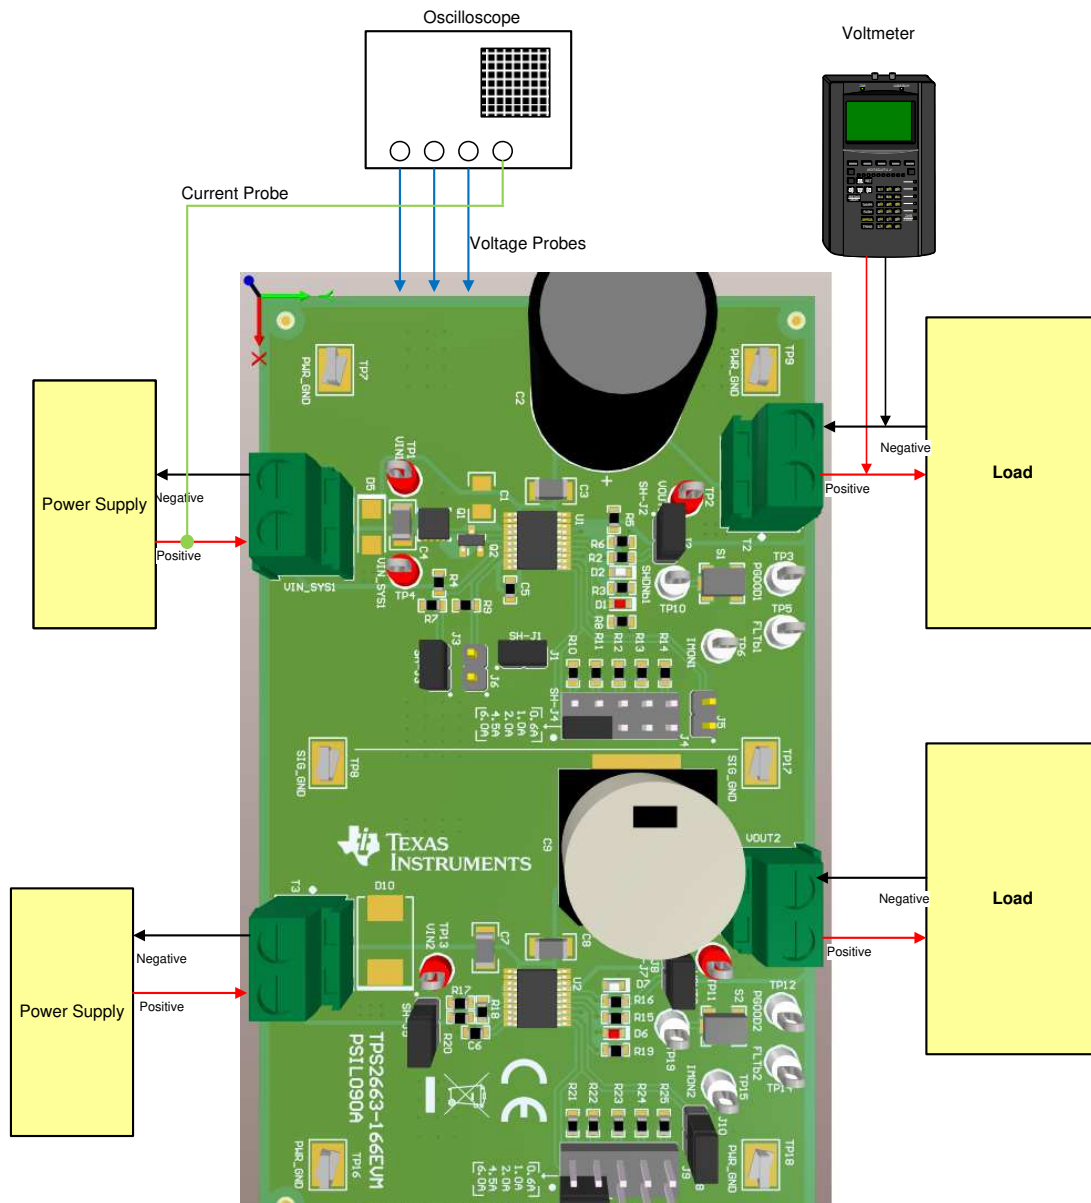

Figure 2. TPS2663-166 EVM Setup
- Connect the power supply, load, oscilloscope, and voltmeter to the EVM as Figure 2 shows.